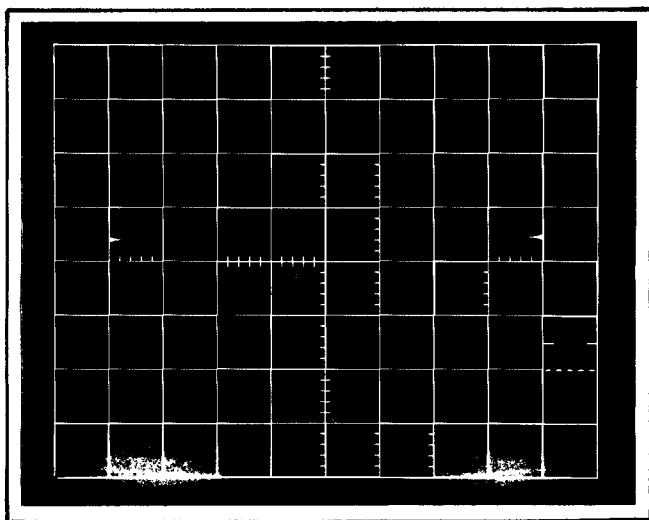

Fig. 7-14. Indicator Oscilloscope display of EXT HORIZ ATTEN control settings.
b. Adjust the EXT HORIZ ATTEN control for exactly 8 divisions of deflection on the Indicator Oscilloscope CRT; see Fig. 7-14.